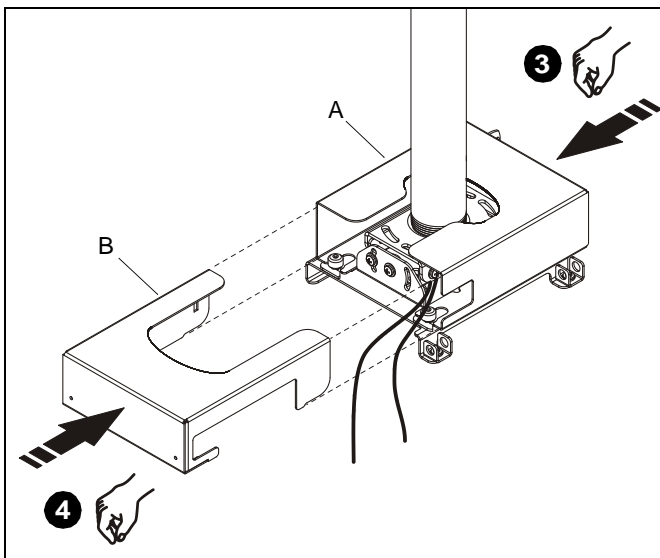

Figure 4
3. Slide enclosure (A) towards center of mount and lock into position beneath interface thumb nuts (See Figure 4).
4. Slide enclosure (B) *partially* into enclosure (A) (See Figure 4).